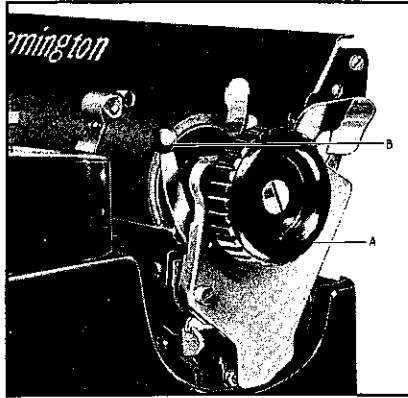

Fig. 1
17. CARRIAGE LOCK LEVER. Locks carriage to prevent damage when carrying machine. (See Fig. 1.)
18. CARRIAGE LOCK LEVER. Locks carriage in central position to prevent damage when machine is being carried. (See Fig. 1.)